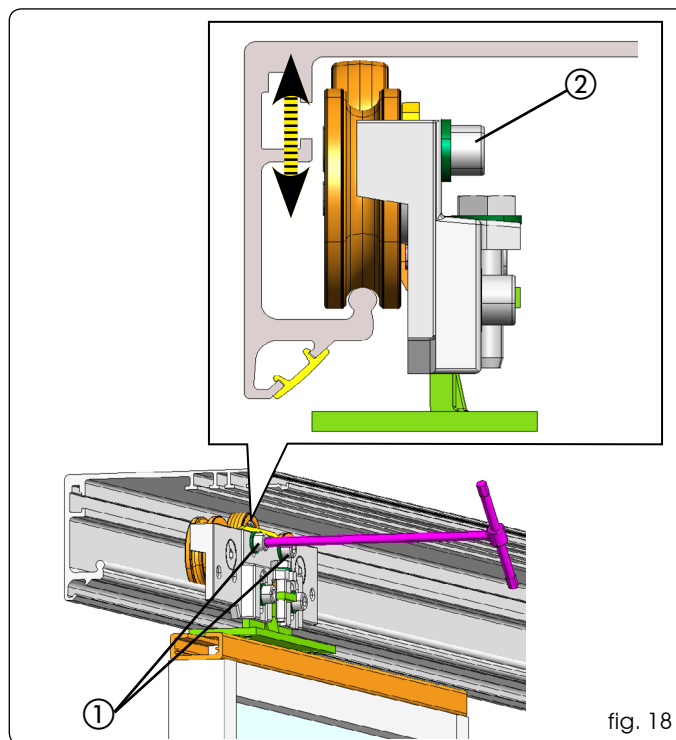

fig. 18
- Loosen the two cylindrical screws (Fig.18 ref.①).
- Adjust the height of the wheel support, making it come as close as possible to the main profile without touching it (Fig.18 ref.②).
- When you have adjusted the wheel's height, tighten the two cylindrical screws (Fig. 18 ref. ①).